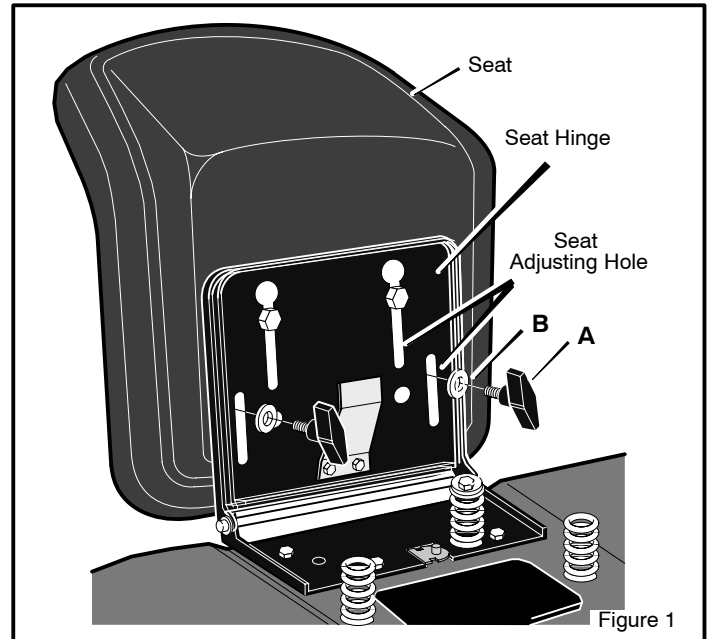

Figure 1
2. Align the holes in the **seat hinge** to the holes in the **seat** (Figure 1). Fasten the **seat** to the **seat hinge** with the fasteners as shown.
3. Check the operating position of the **seat**. If the **seat** needs to be adjusted, loosen the two **wing bolts**. Slide the **seat** forward or backward along the **seat adjusting holes** as shown. Tighten the **wing bolts** (A).